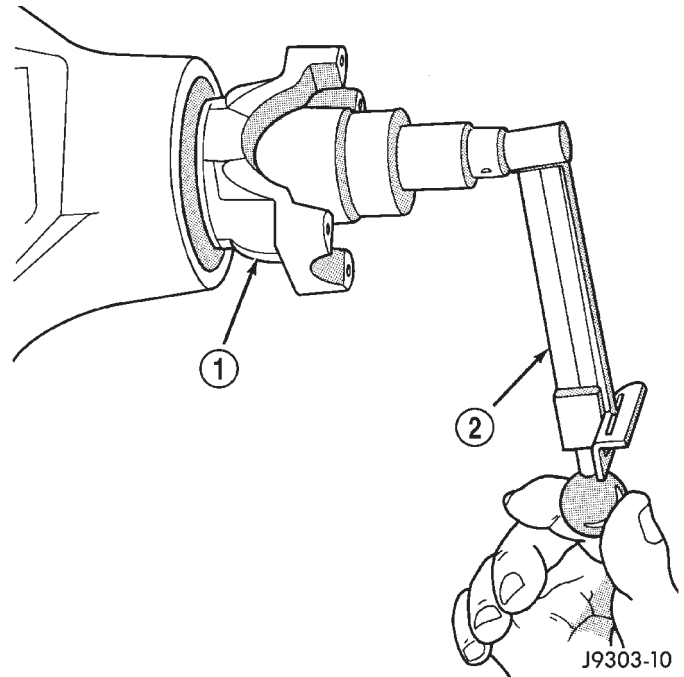

Fig. 47 Check Pinion Gear Rotating Torque
(15) Slowly tighten the nut in 6.8 N·m (5 ft. lbs.) increments until the rotating torque is achieved. Measure the rotating torque frequently to avoid over crushing the collapsible spacer (Fig. 47).
(16) Check bearing rotating torque with a (in. lbs.) torque wrench (Fig. 47). The torque necessary to rotate the pinion gear should be: